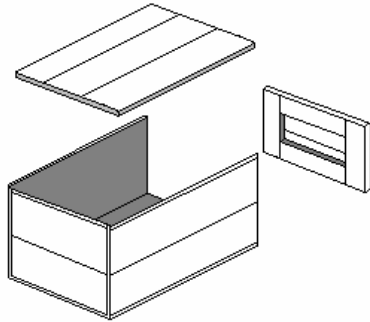

Figure 1: Style 2 Nailed Wooden test box
- A. A substantial wood box (**corrugated containers will not be accepted**) filled with sand or equivalent to a gross weight of 100 lb (45 kg). In order to maintain uniform data, it is required that this test box be a Nailed Wooden Box (end cleats INSIDE), measuring approximately 24" x 18" x 10", OD. It is recommended that it be retained and kept continuously available for periodic equipment calibration (**See Figure 1**).
- D. Metal shim 1/16 inch thick, approximately two (2) inches wide.